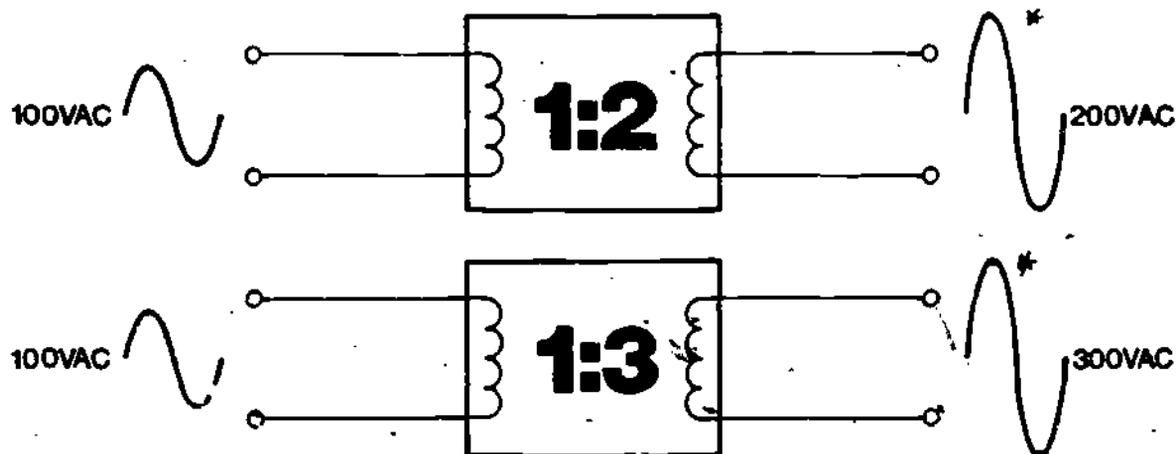

Figure 1
1. You know AC voltage can be stepped up (increased) by use of a transformer and that the amount of increase depends on the ratio of the primary winding to the secondary winding. See Figure 1.